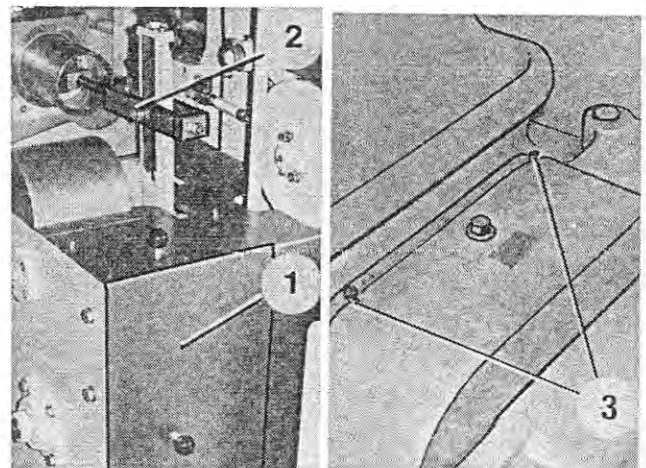

Fig. 54
1. Lubricate all red-marked lubricating points, using an oil gun (e.g. accelerating roller, dispenser axle, lubricating holes of the sliding pads in the dosing lever (Figure 54/2) etc.). Refer to lubricants see section 1.2.
2. Remove the cover plate (Figure 54/1). Spray oil on all cam rollers and curves which are not connected to the central lubricating system or the lubricating sledge. Spray the oil in such a way that it runs between the cam roller and lever. Crank the machine with the handwheel for better distribution.
3. When machines with a worm trough are used, lubricate the oiler (Figure 54/3) using the oil gun.